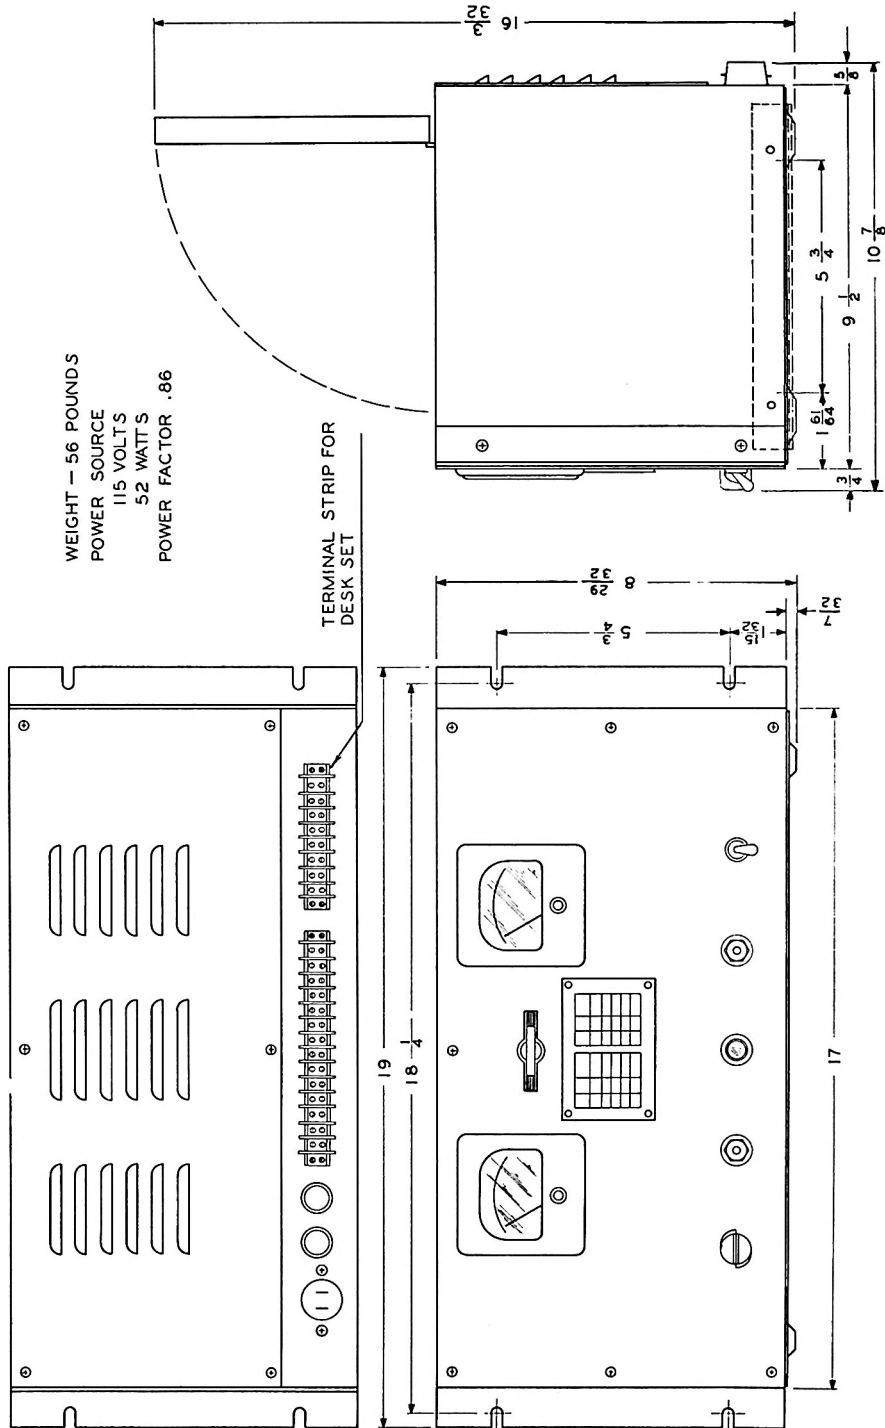

Figure 23. Remote Control Unit Installation
3.6. REMOTE UNIT. The outline dimensions of the Type 177G-9 Remote Control Unit are shown in figure 23. It may be rack mounted or desk mounted. If rack mounted, sufficient space above the unit must be allowed for opening the cover. The Type 177G-10 Remote Control Unit is designed for rack mounting on a standard 19-inch relay rack.